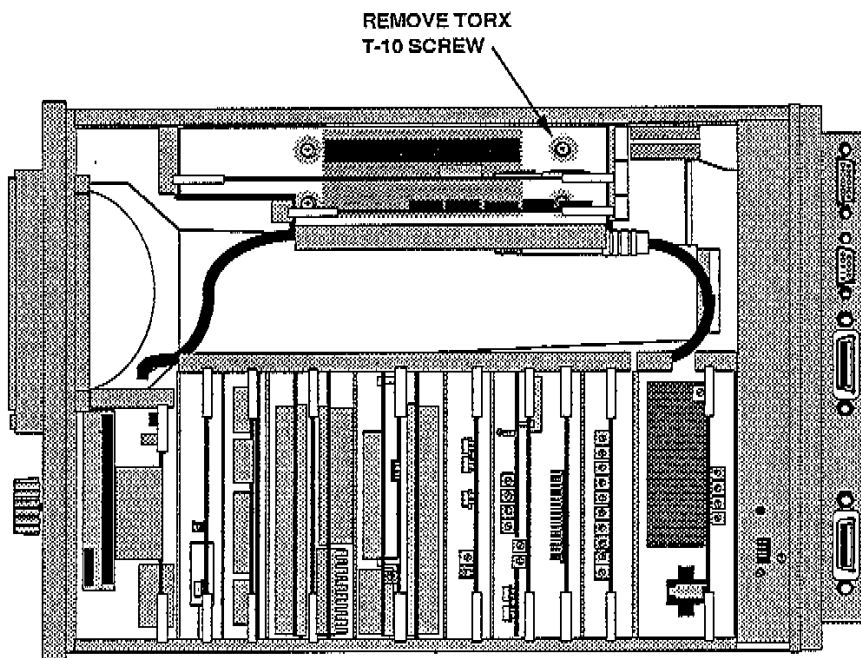

Figure B-2. Screw removal.
- 6. Remove the Torx T-10 screw from the motherboard as shown in Figure B-2. This prevents J11 on the Processor Extender from shorting.
¹The Processor Extender board can be used with any of the boards in the Processor card cage, and the Communications Interface board in the Power Supply module. If the Memory board is extended, Interrupt 4 must be set on J12 of the A42 I/O Interface board instead of on the Processor Extender board. When the Processor Extender board is inserted in the A41 Main Processor or A43 Memory board slots, a corresponding Mother board screw must be temporarily removed to avoid contact with connector J11 on the Processor Extender. See Figure B-2.